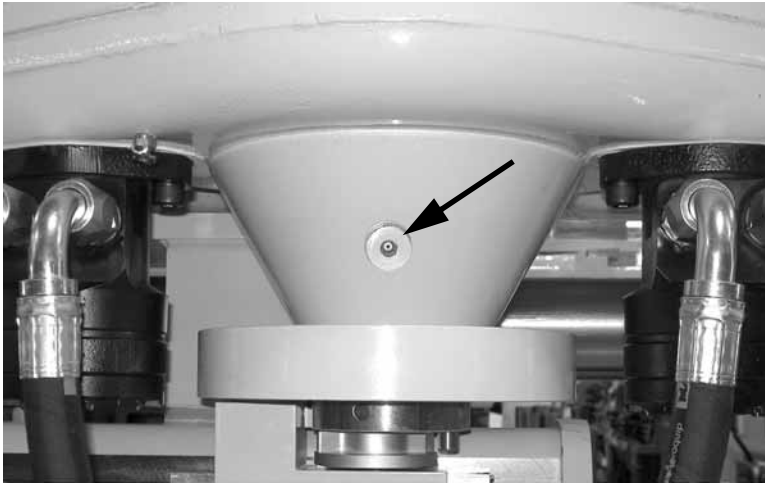

Figure 6-4. Fitting on the gear shaft housing.
- One on the gear shaft housing—Figure 6-4.